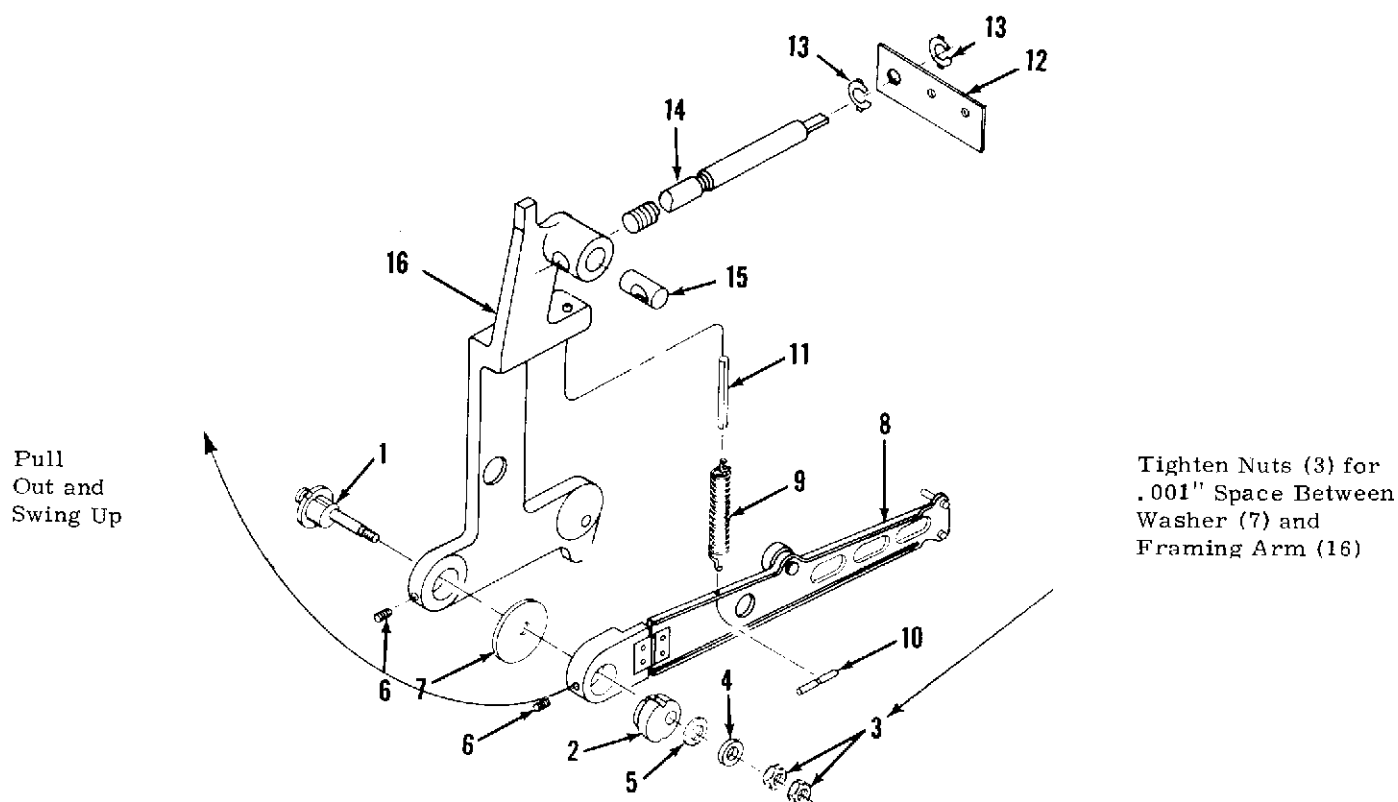

Figure 3-5. DISASSEMBLY AND REASSEMBLY CLAW ARM WITH SIDE CLEARANCE REQUIREMENT.
2. Check Pin (10) (Figure 3-5) to be sure it is in position under edge of Claw Arm (58) with its groove at the spring (Lubricate Pin (10) with DC44).
#### Removal of Claw Arm (Figure 3-5)
## Reassembly of Claw Arm to Projector (Figure 3-5)